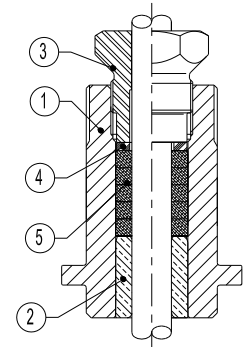

Fig. 7 – Packing type G
- 24 hours after the start up, it is recommended to check pipe connections and verify the tightening of flanges locknuts. Graphite packing should be compressed by tightening the threaded bushing (3) (see fig.7) about a ¼ of a turn (care should be taken since over-tighten may lock-up the valve stem).